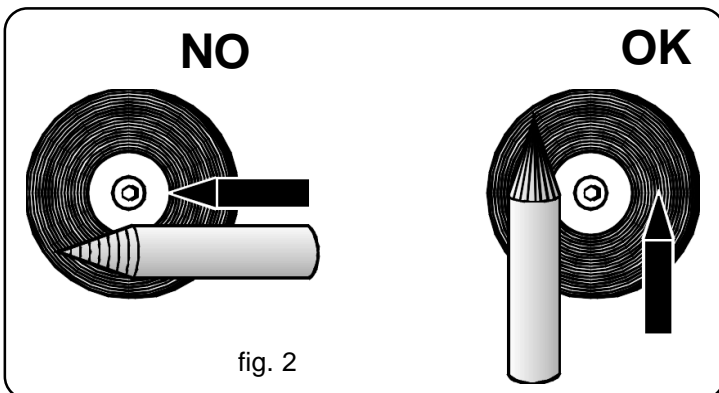

fig. 2
- a 2% thorium tungsten electrode (red colour) of 1.6 mm. diameter has to be used for this equipment. Special care should be taken in preparing the electrode point; it should be ground so as to show a vertical scoring as shown in fig. 2.